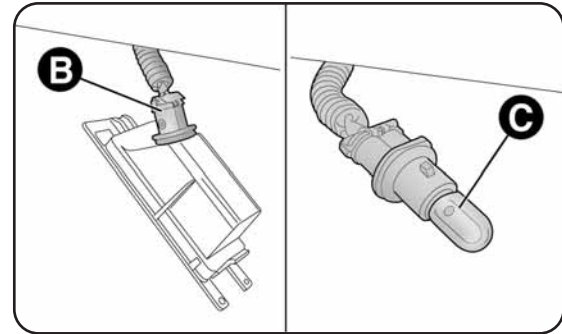

fig. 25
- turn the bulb holder B-fig. 25 anti-clockwise;